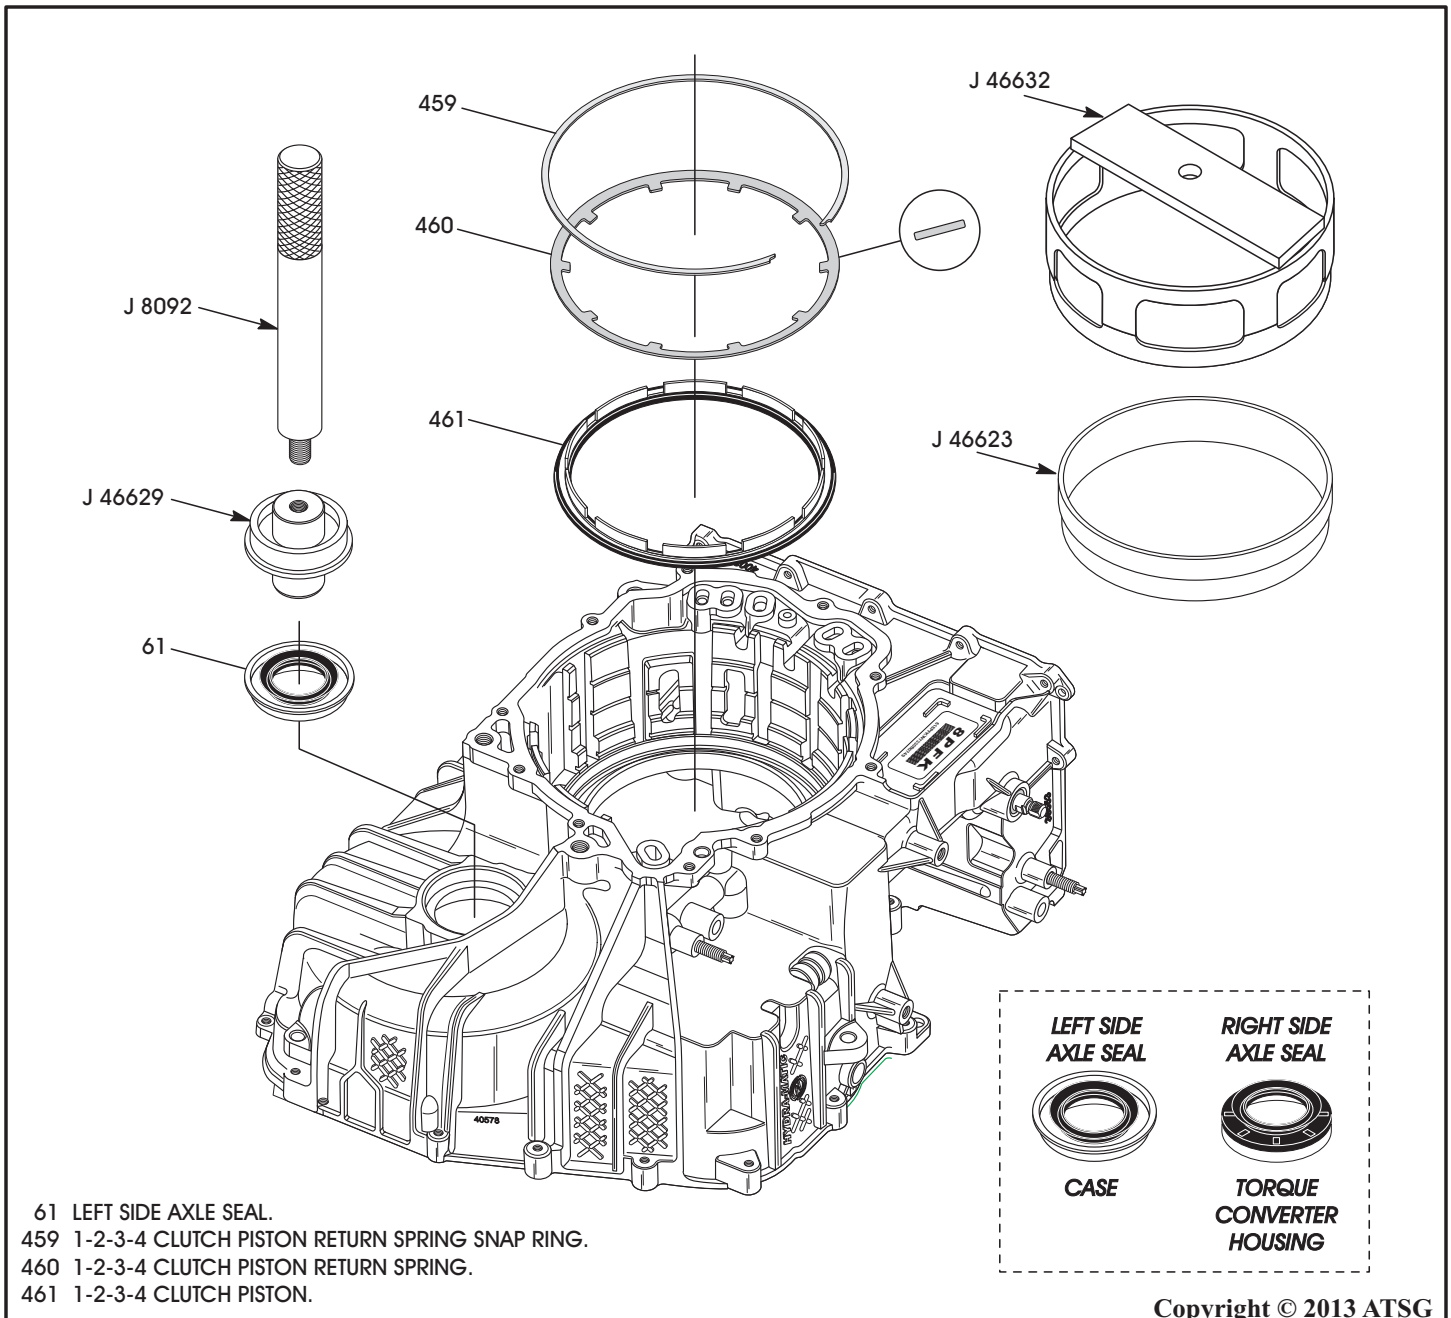

Figure 77
3. Install new left hand axle seal using the adapters shown in Figure 77.
- Note: The left and right side axle seals are different design (See Figure 77).**
5. Install the 1-2-3-4 clutch piston into the case, as shown in Figure 77.
- Note: There's a seal protector available, J 46623, as shown in Figure 77.**
6. Install the 1-2-3-4 clutch piston return spring, as shown in Figure 77.
7. Compress the return spring using J 46632 and install the snap ring, as shown in Figure 77, with the snap ring opening positioned so that it is supported by a splined tooth in the case.